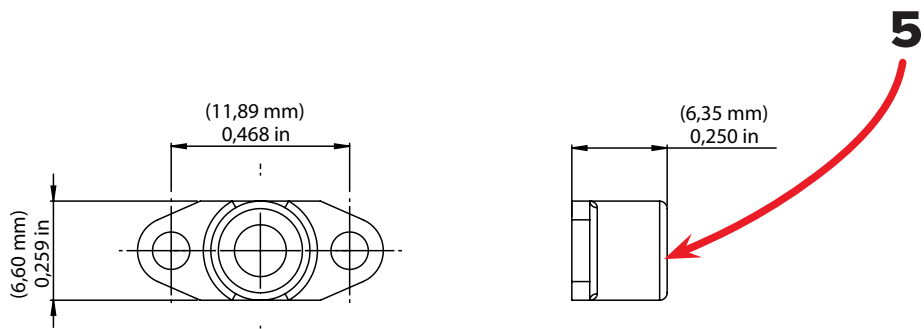

FIGURE 3-2- ANCHOR NUTS
- 100 Anchor Nuts MS169L08 (figure 3-2);